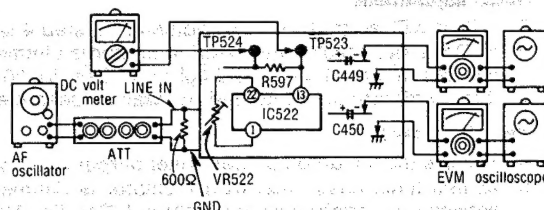

Fig. 24
1. Make the connections as shown in fig. 24 and apply 1kHz -27dB signal from LINE IN, and set the noise reduction selector to dbx IN position.